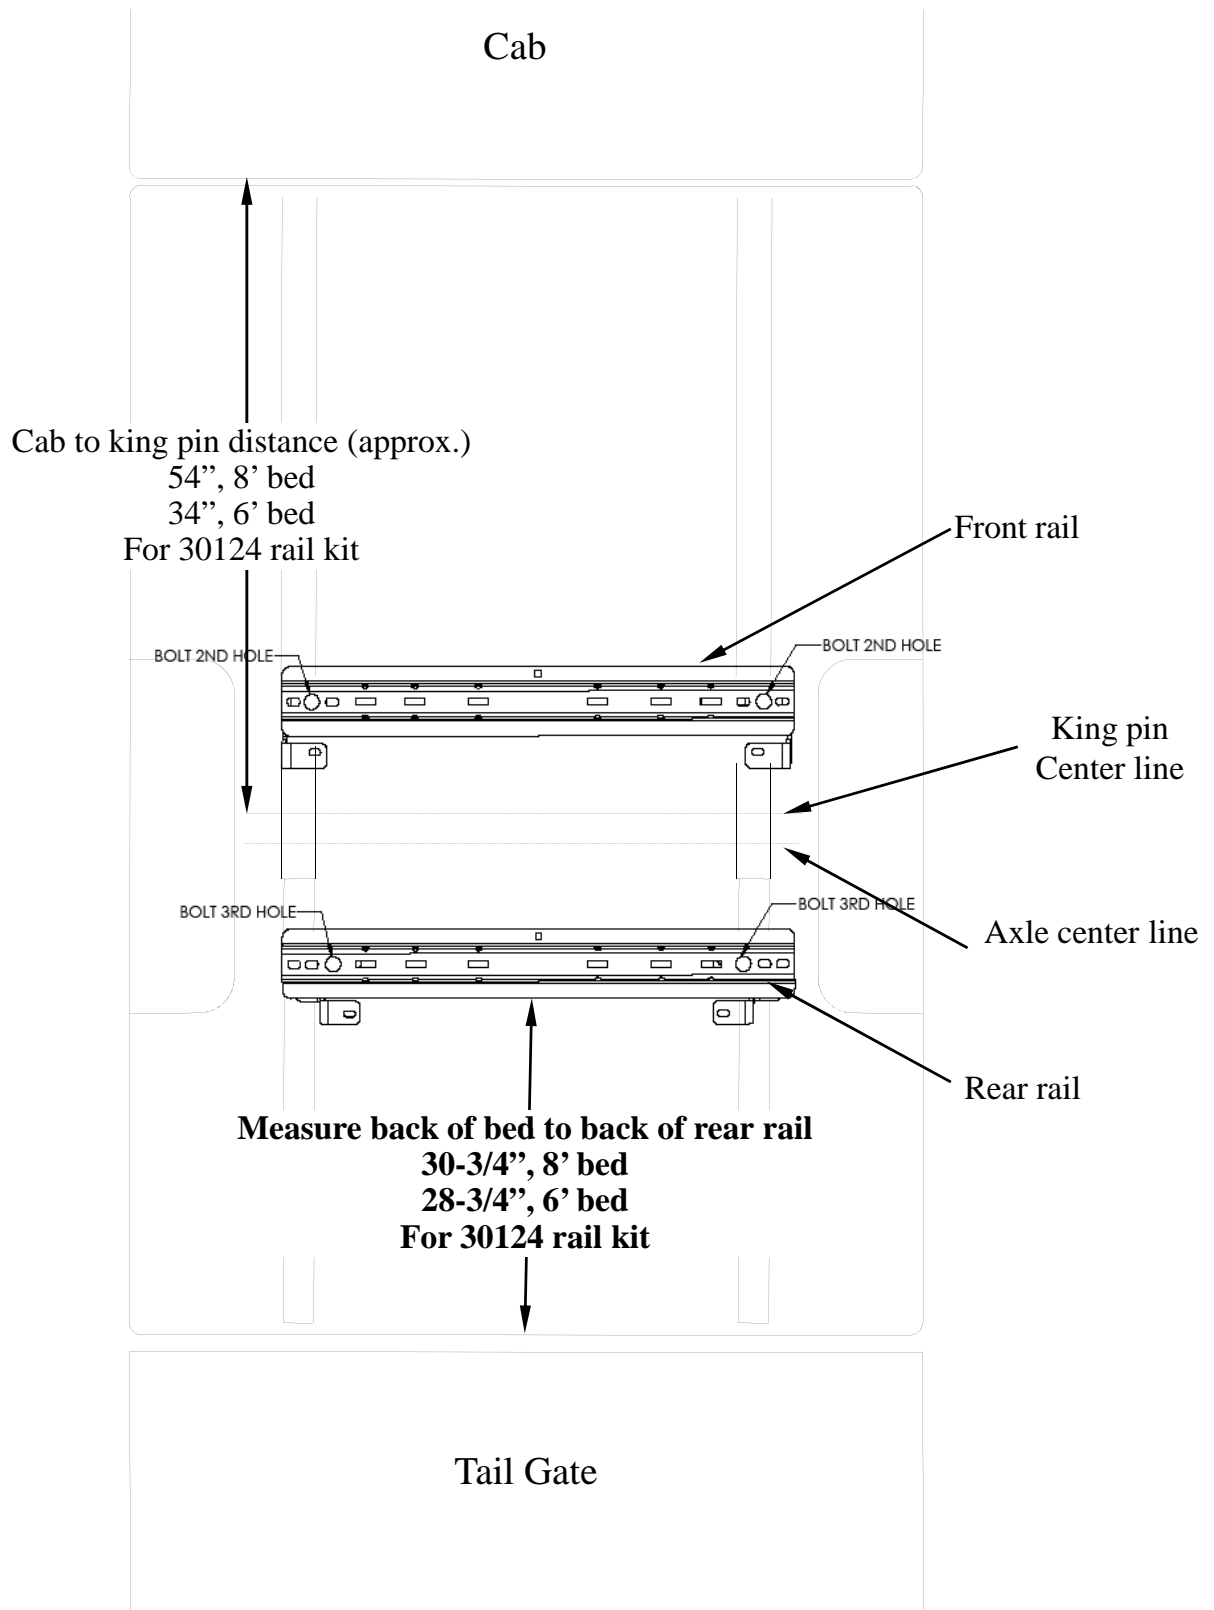

Figure 6
21. Place the rear mounting rail in the box of the truck. Using your tape measure, center the rail between the weld seams on the length of the truck box floor and the proper distance from the rear edge of the truck box as illustrated in Figure 6.
22. Mark and center punch the holes as per the illustration in Figure 6. Move the rail out of the way and drill each position with a 1/8" drill bit. The holes on the rear rail need to go through the bed support. **WARNING: When drilling holes be aware of potential risks to vehicle components and make appropriate safe guards to protect them from damage.**